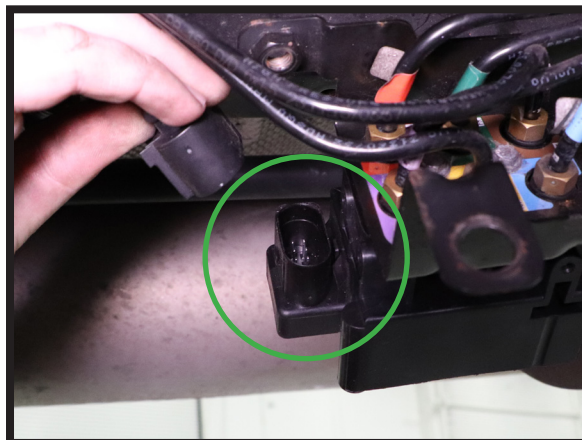

FIGURE 8
6. DISCONNECT THE ELECTRICAL CONNECTION FROM THE VALVE BLOCK. (FIGURE 8)